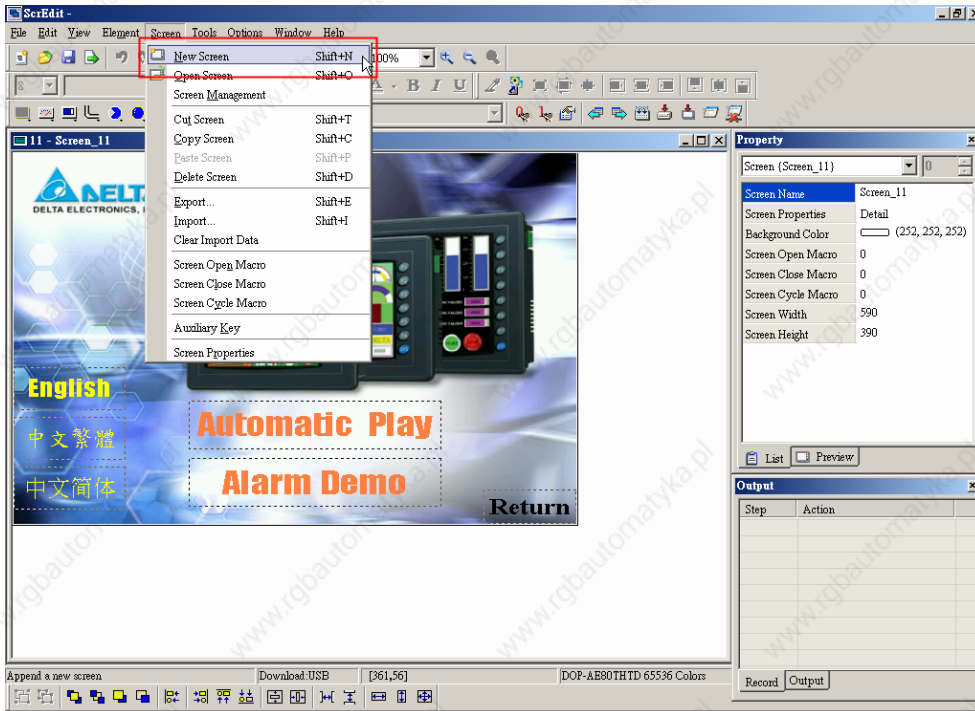
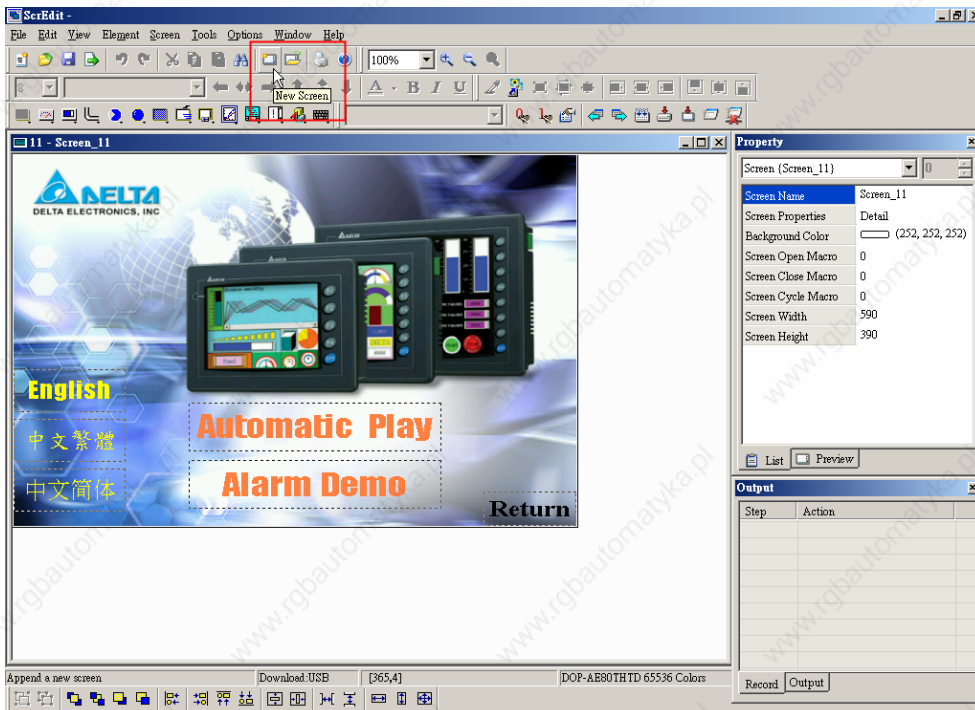
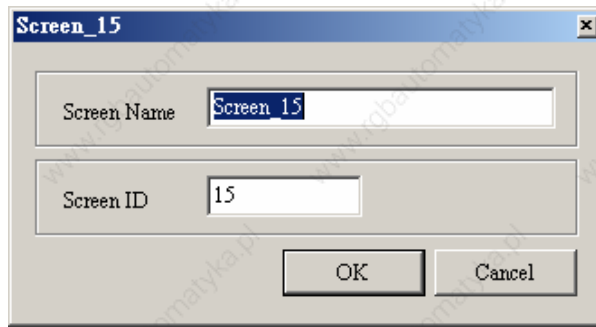

Fig. 2.7.3 Choosing New Screen command from menu bar
Fig. 2.7.4 Choosing New Screen icon from toolbar
Fig. 2.7.5 New Screen dialog box
**Screen** (Fig. 2.7.3) or click the New Screen icon  (Fig. 2.7.4), or use keyboard shortcuts by pressing **Shift + N** to open a new editing screen. The new screen can be named and numbered by the users. The setting dialog box is shown as Fig. 2.7.5.